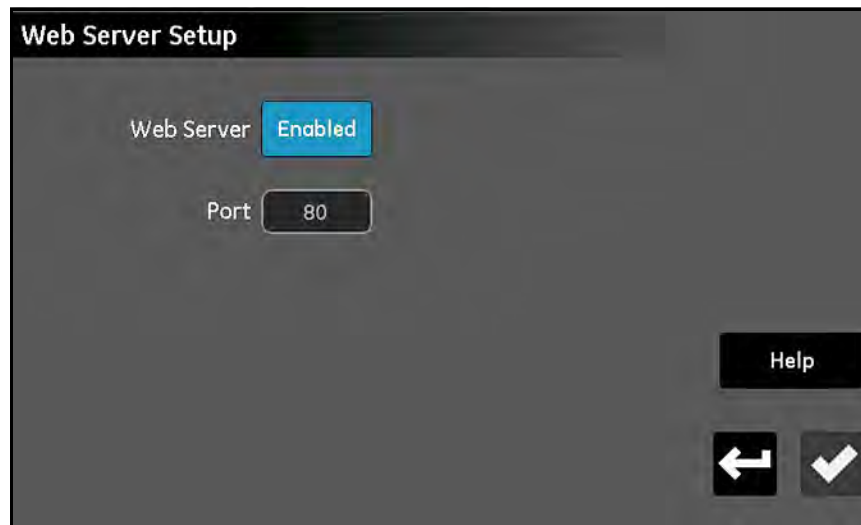

Figure 73: Web Server Setup Screen
1. From the *Configuration Menu* screen (see *Figure 52 on page 57*), tap the **Web Server** button to open a *Web Server Setup* screen similar to *Figure 73* below.